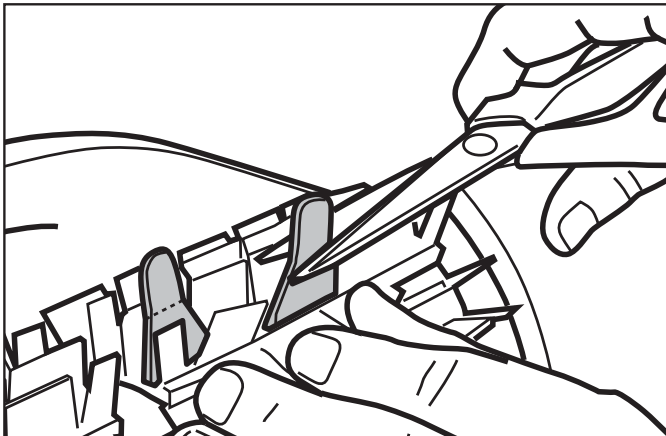

Figure 17. Cut Tabs
- Use scissors to cut the tabs so they are no higher than the spikes as shown in Figure 17.